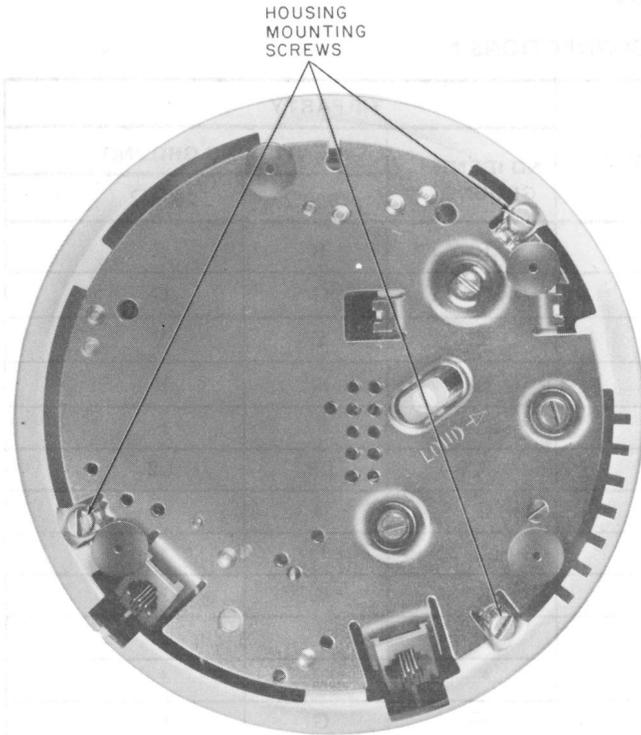

Fig. 2—Telephone Set, Bottom View
2.01 The 940-type rotary dial equipped telephone sets are DESIGN LINE telephone sets being made available to the customer. The customer buys the housing, handset, and decorative features from the telephone company and the telephone company retains ownership of the transmission and signaling components which are mounted on a removable base (Fig. 2) and incorporated in the handset.
- (1) Remove handset cord from handset and telephone set base.
- (2) ♦Remove the receiver and transmitter units from the handset.♦
- (3) Remove mounting cord from telephone set base and connecting block or adapter.
- (4) Remove three housing mounting screws located on bottom outer edge of the baseplate (Fig. 2).
- (5) Remove upper and lower housing by lifting them off.
- (6) After removing telephone company-owned components reassemble upper and lower housings using the three housing mounting screws (Fig. 2).